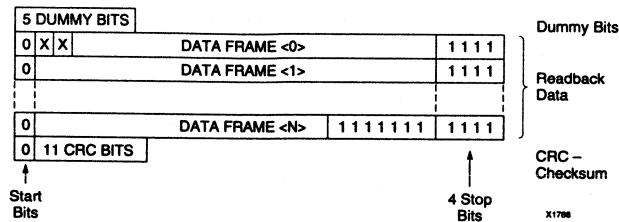

Figure 7-8 XC4000 Readback Bitstream
a start bit (0), the data field, and four stop bits (1111). The bitstream ends with 11 CRC bits, as illustrated by Figure 7-8.
During a readback, 11 bits of the 16-bit checksum are appended to the end of the readback data stream, as illustrated by Figure 7-8.